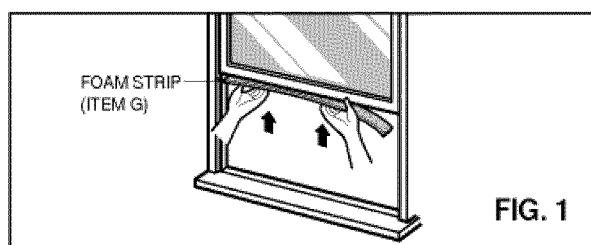

FIG. 1
- 1 Cut the FOAM STRIP (ITEM G) to fit the underside of the window sash. Open the window, peel off the backing and attach the FOAM STRIP as shown in FIG. 1.